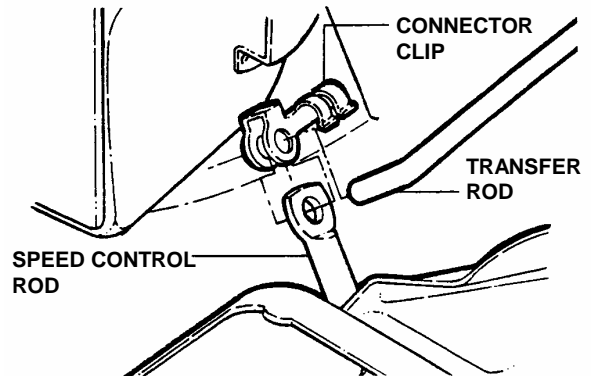

FIGURE 4.9
1. Using a small flat blade screwdriver, free the clip from the transfer rod. Then remove the transfer rod from the clip and the speed control rod. See Figure 4.9.